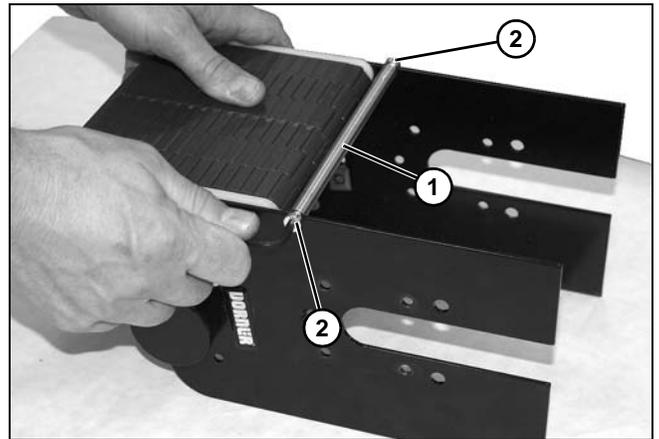

Figure 141
9. Install rod (Figure 141, item 1) and secure with socket head screw (Figure 141, item 2) each side of transfer tail.